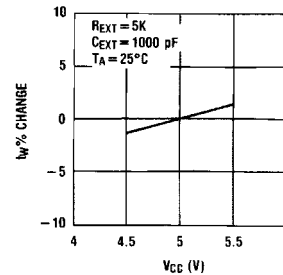
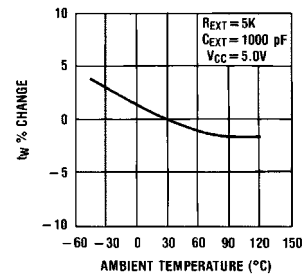

FIGURE 3.
FIGURE 4.
- Output pulse width versus V_{CC} and operation temperatures: Figure 3 depicts the relationship between pulse width variation versus V_{CC}. Figure 4 depicts pulse width variation versus ambient temperature.